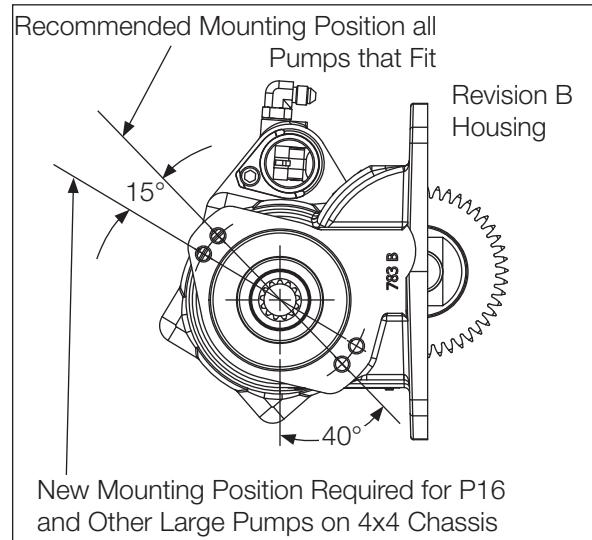

Figure 25
14. Recommended pump mounting position (**Fig. 25**).